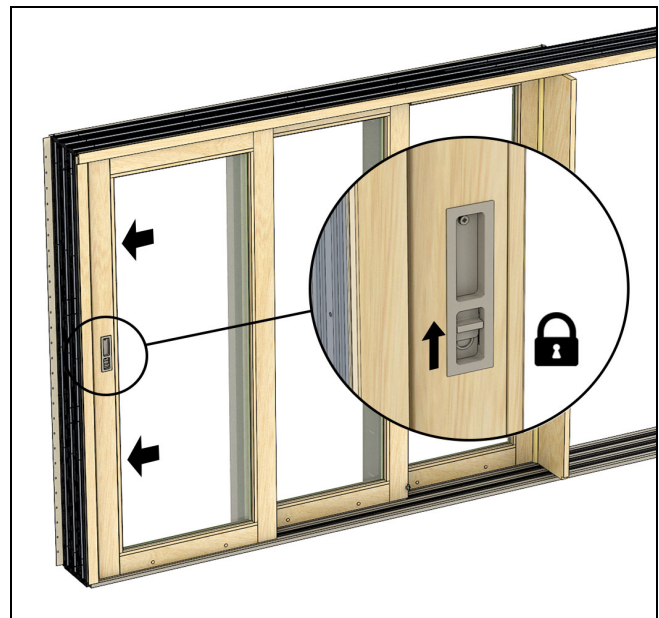

Figure 29
3. On Multi-Panel Sliding Doors (MPS): close the door completely until the latch engages the strike. Slide the lock handle up to engage the multi-point lock. Once locked the sensor will align with the magnet and signal a closed and locked status. See Figure 29.